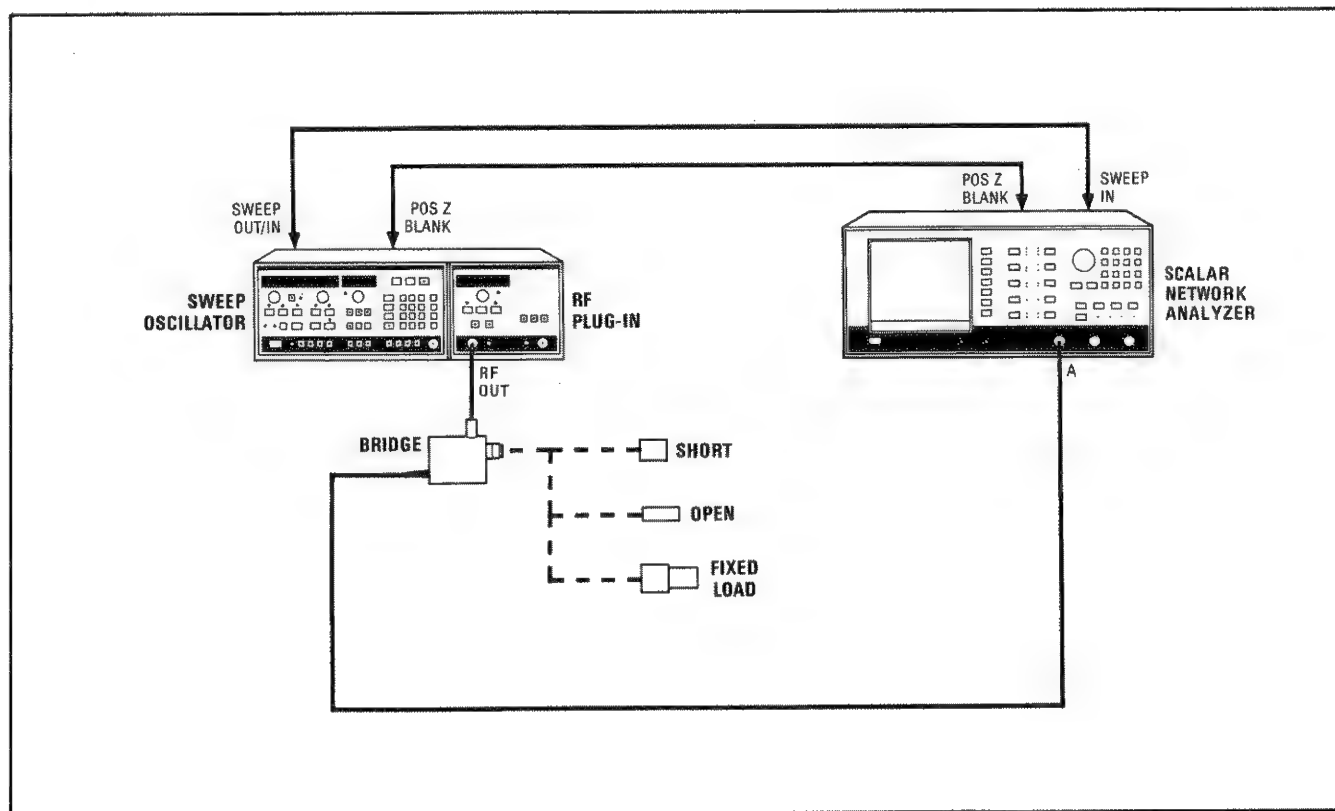

Figure 4-1. Directivity Test Setup
1. Connect the equipment as shown in Figure 4-1. If the Directional Bridge is an 85020B, connect the Model 11852A 50-ohm to 75-ohm minimum loss pad between the output of the RF Plug-In and the input port of the Directional Bridge. Do not connect the fixed load (termination) at this time. Allow the equipment to warm up for 30 minutes.